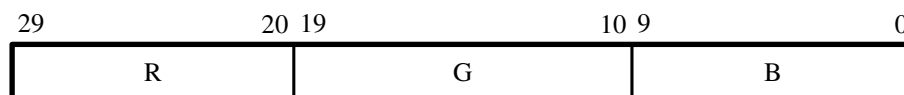

Figure 11. 30-bit RGB Color Space.
- 30-bit RGB — This format uses 10 bits for each color as shown in Figure 11. This mode is defined as 10 bits per color and three color planes.